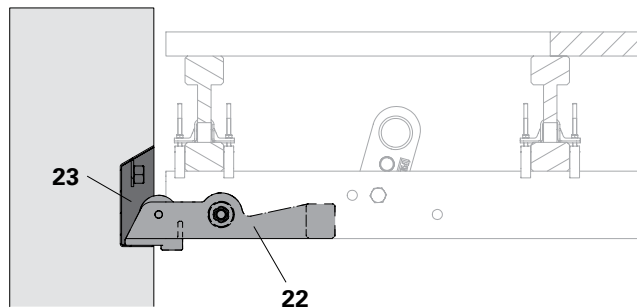

Fig. C1.01
When supporting with the Bearing Box BR (23), the Bearing Box BR remains in the concrete wall. This results in better load distribution in the concrete and avoids tearing of the concrete edge. The Gravity Pivot Plate BR (22) is positioned in the Bearing Box BR. Remove the Bearing Box BR (23) only after the Shaft Platform has been moved to the next concreting section. For this, a finishing platform is required. (Fig. C1.01)